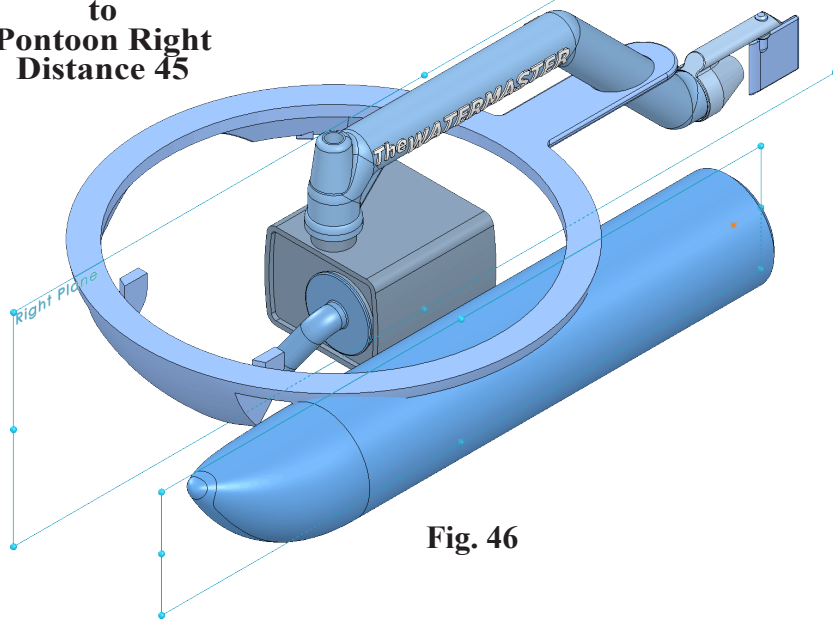

Fig. 46
Step 5. Click **Distance**  in Mate pop-up, Fig. 45. Set distance **45** and press ENTER. The **Pontoon** should be under the port side of the Deck, Fig. 46. If positioned in opposite direction, click **Flip Dimension**  in the Mate pop-up. Click Add/Finish Mate  to add Distance mate.